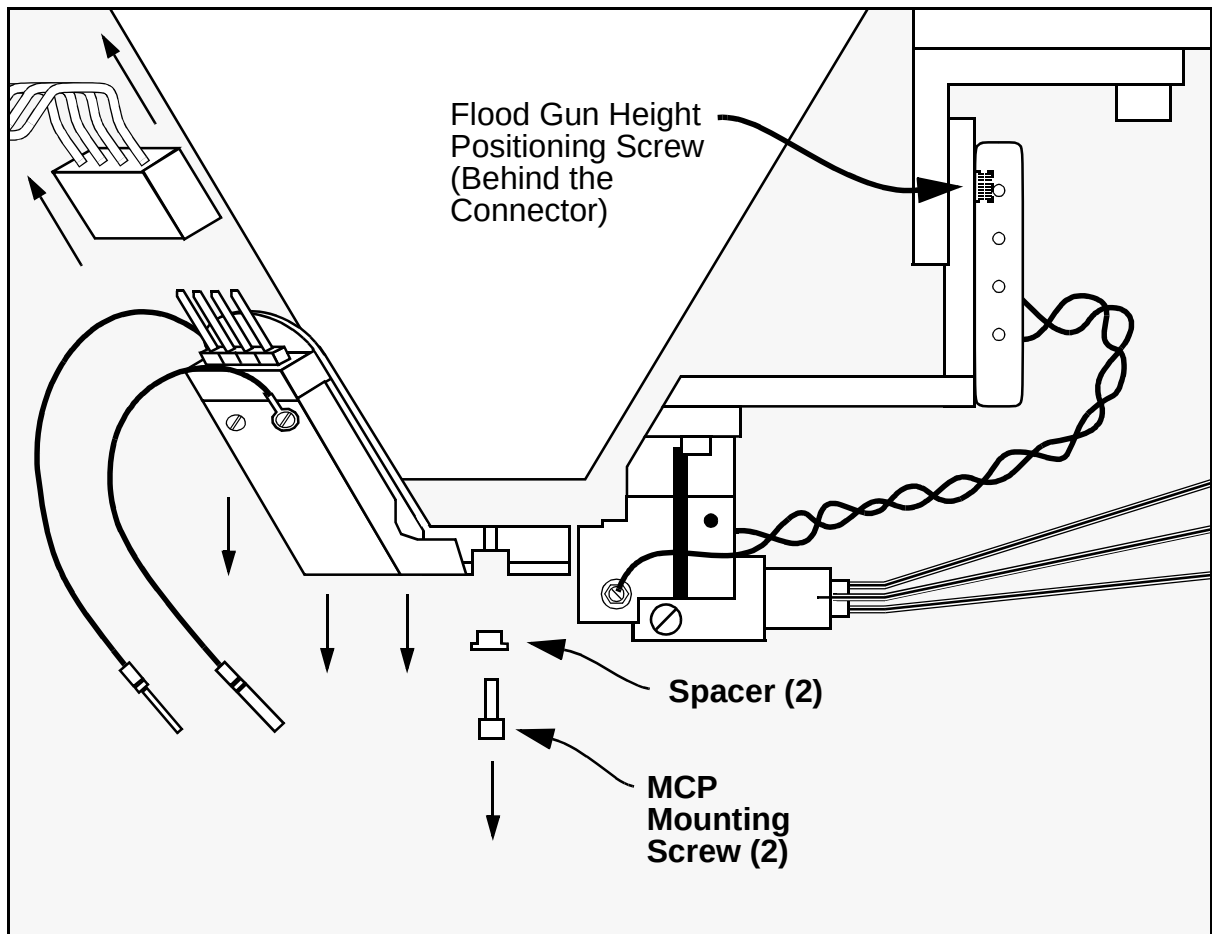

Figure 6. Side View of Flood Gun Without Snout and Small MCP: Flood Gun Lowered and MCP Disconnected.
- 2-2. Wearing clean room gloves, loosen the flood gun height positioning screw (see Figures 6 and 7) and slide the flood gun assembly down to provide access to the MCP.
- 2-3. Remove the MCP electrical connectors (see Figures 6 and 7).
- 2-4. Remove the MCP from the bottom of the column by removing the mounting screws (and spacers, if applicable). See Figures 6 and 7. Be careful not to damage the MCP screen.
- 3-1.** Fasten the replacement MCP to the bottom of the column with the MCP mounting screws (see Figures 6 and 7).